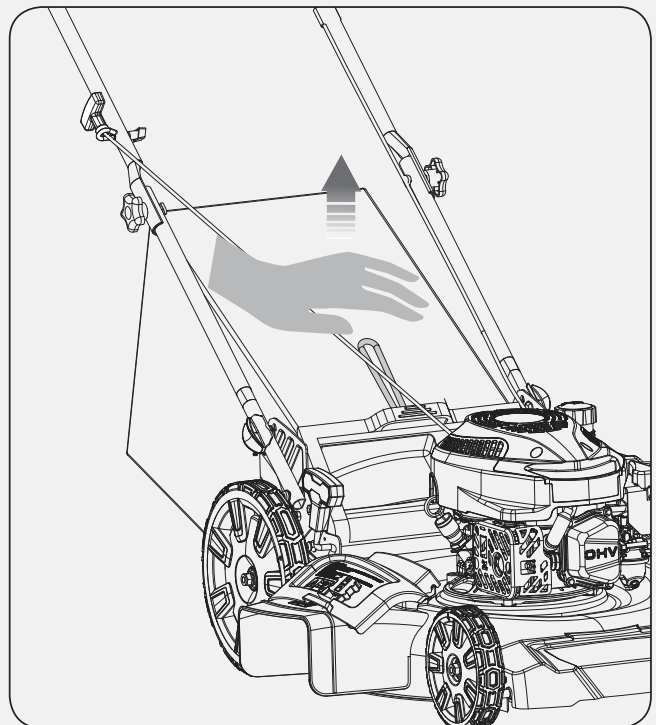

Figure 13
- Lift the grass catcher with the frame handle. (See **Figure 13**)